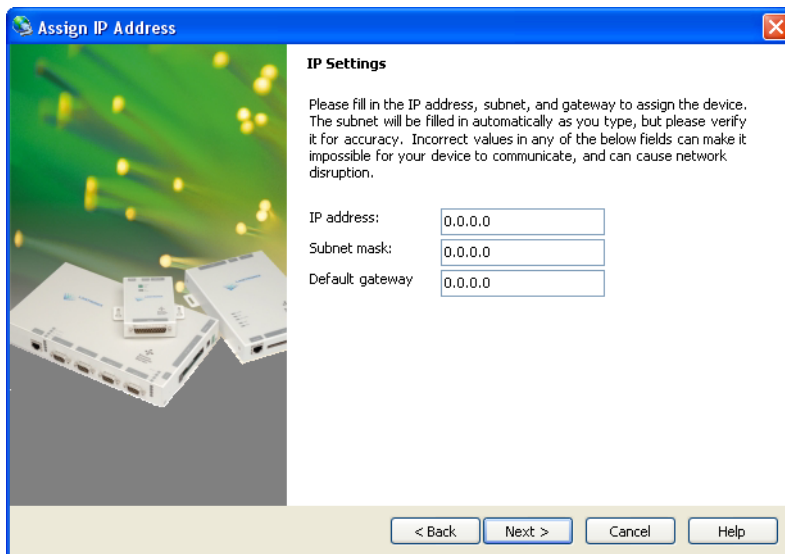

Figure 22: IP Settings Window
6. Click on the Assign a specific IP address radio button, then click on the button. The IP Settings window appears (see Figure 22).